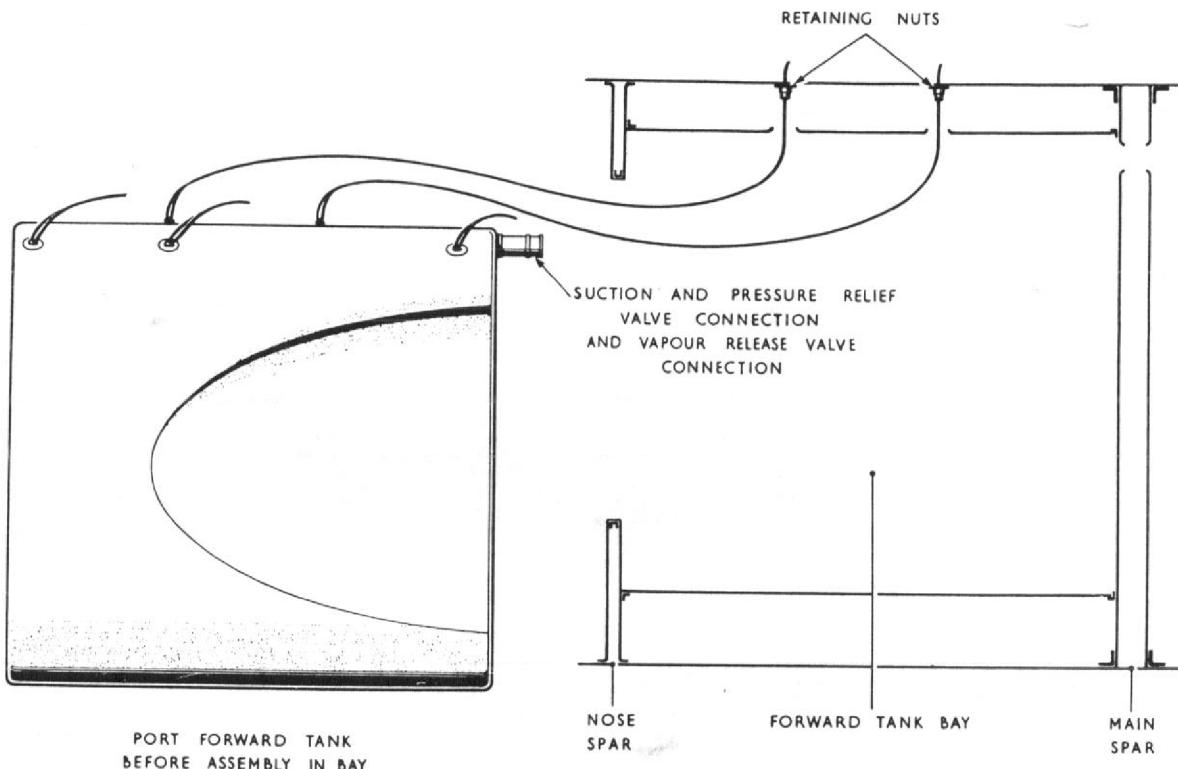
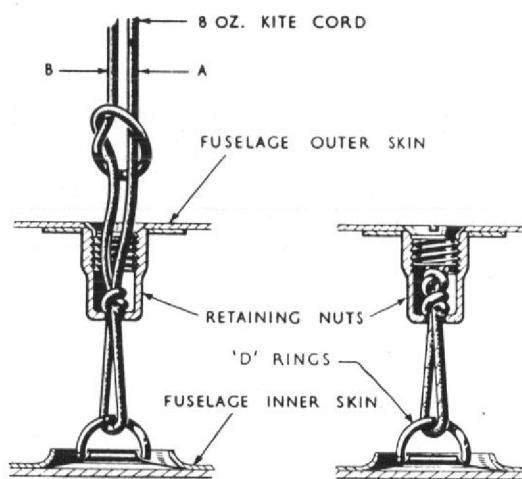
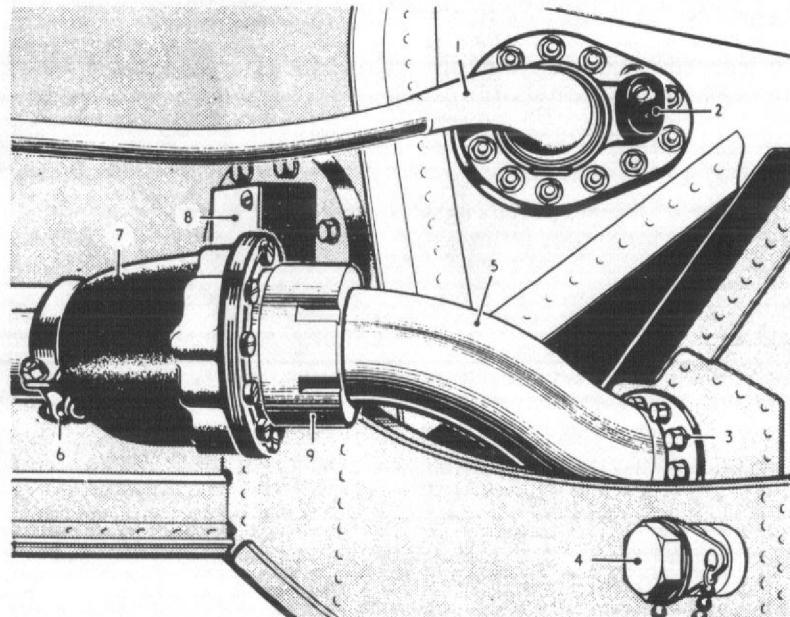

Fig. 12. Method of installing front tanks
Fig. 13. Securing the tank cords
Fig. 14 Removal of centre fuel tanks (1)
- (1) Remove the screws from the five tank retaining nuts.
- (2) Obtain about 40 yards of 8 oz. kite cord (Ref. 32A/107), cutting the cord into five lengths of about 8 yards each.
- (3) Thread the cut lengths of kite cord through the nuts into the tank bay and out through the tank door in frame 19.
- (4) Pass the cords through the 'D' rings on top of the tank (fig.12 and fig.13), form each cord into a loop about 12 in. long and securely whip the end.
- (5) Carefully fold the tank and push it into the tank bay. Pull all cords until the tank is held against the tank skin by the cords and the loops appear through the tank retaining nuts.
- (6) Cut the cords below the whipping and tie one cord A round the other B in a slip knot (fig.13) and pull the knot down into the retaining nut. Tie another slip knot, cord B round cord A this time, and work down into the retaining nut as far as possible. Cut both ends of the cord at outer skin level.
- (7) Replace the screws in the retaining nuts and lock by peening the skin into the slot.
**Removal of centre fuel tanks (fig.14, 15 and 16)**
- (1) Render the aircraft electrically safe (Sect. 5, Chap.1).
- (2) Drain the fuel system (Sect.2, Chap.2).
- (3) Trestle the aircraft (Sect.2, Chap.4).
- (4) Remove the rear fuselage (Sect.3, Chap.1).
- (5) Remove the engine starter access door (Sect.2, Chap.4), the suction relief valve access panel and the fuel vent connection access panel.
- (6) Remove the section of the aircraft spine positioned above the centre tanks.
- (7) Remove the engine (Sect.4, Chap.1).
- (8) Remove the engine starter exhaust pipe.
**Removal of refuelling valve (fig.14)**
### Removal of transfer pipe connecting front and centre tank (fig. 14)
### Removal of fuel contents gauge terminal box (fig. 14)